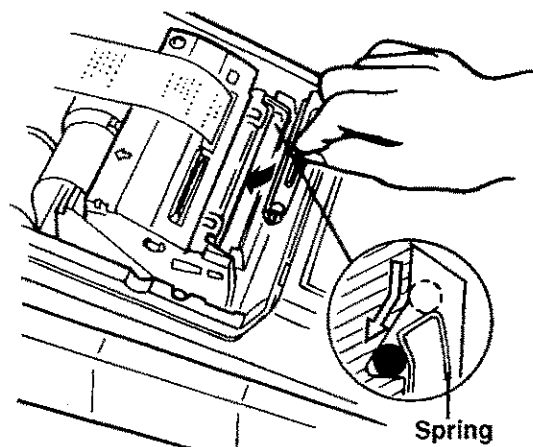

Fig.2
3. Hold the new ink roller by the plastic ears on it and place it on the spring. Then press the ink roller until it snaps into place. (See Fig.2.)